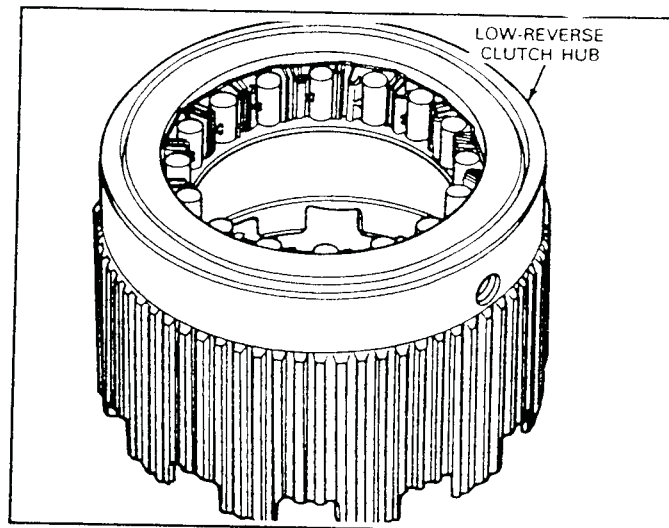

FIG. 57 One-Way Clutch Installed
2. Push the forward end of the spring assembly down into the forward end down (Fig. 57).